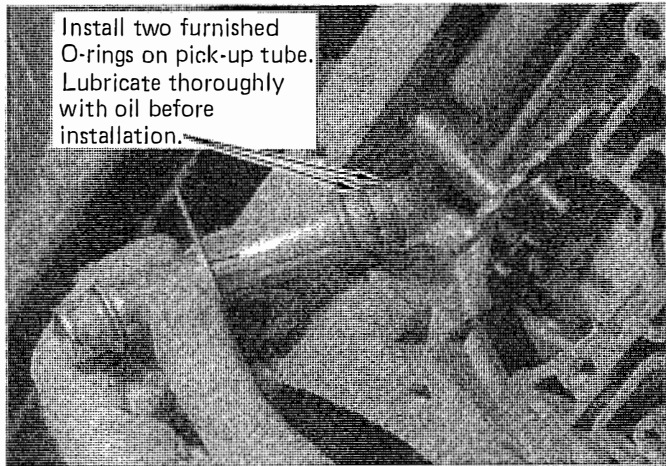

FIGURE 57
STEP 31. Install new oil filter. For longer transmission life and improved oiling system, install B&M Competition Oil Pickup #20287. Install two filter tube O-rings on your pick-up tube. (See Fig. 57) Thoroughly lubricate the O-rings with automatic transmission fluid. Push the pick-up tube-filter assembly into the transmission. On '68 and later models install the filter retaining bolt and torque to 10-ft. lbs. This bolt has a 1/2" shoulder on it so the filter is free to "float."